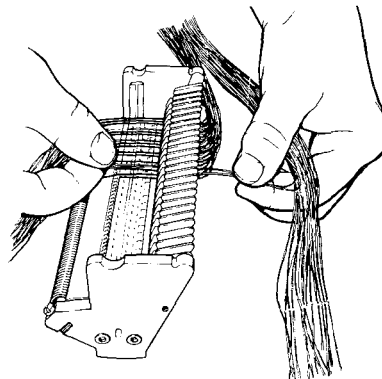

Fig. 23—WRONG—Guide thumb too far from rear of head.
*Note:* DO NOT hold guide hand too far from splice. See Figure 23. The twist in paired conductors could jam behind the separator and cause "shiners". See Figure 24.